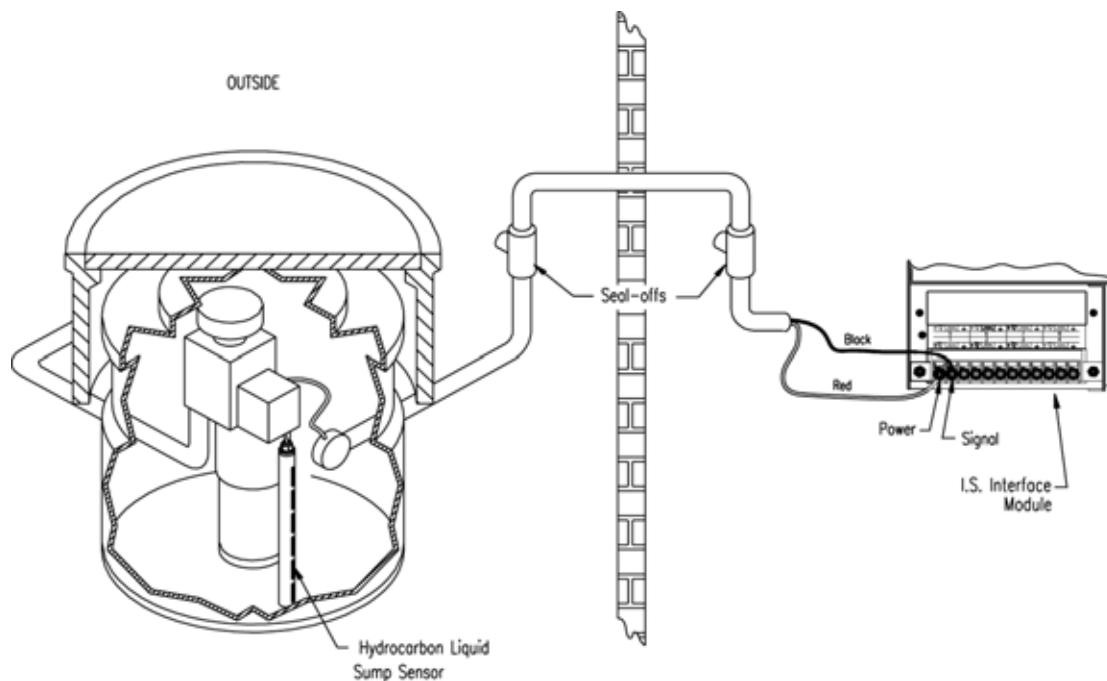

Figure 20: Hydrocarbon Liquid Sump Sensor Installation
- Review Figure 20 on page 57.